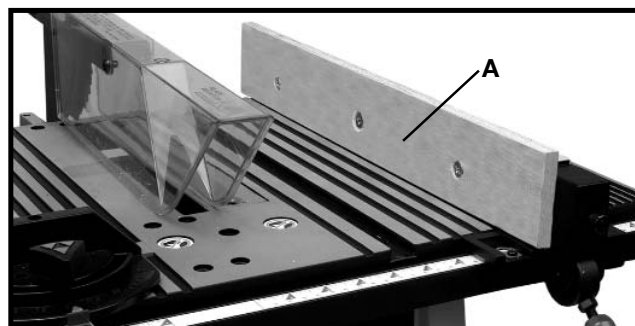

Fig. 43A
Wood facings (A) Fig. 43A are necessary on some special operations to one or both sides of the rip fence. The wood facing is attached to the fence with screws through the holes in the fence. Most work will require a 3/4 " stock, although an occasional job may require 1" facing.